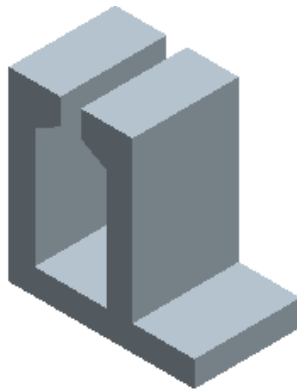
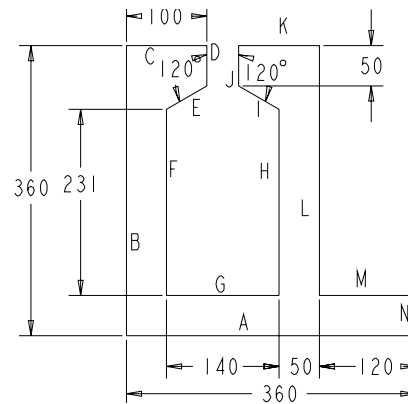

Figure 2-27 Model for Tutorial 2
Figure 2-28 Sketch of the model
In this tutorial, you will draw the sketch for the model shown in Figure 2-27. The sketch is shown in Figure 2-28. For your reference, all entities in the sketch are labeled alphabetically.
The sketch in Figure 2-28 consists of only lines. For ease of understanding, all lines in the sketch are labeled alphabetically.
9. Now, continue drawing the remaining lines that are shown in Figure 2-28. When the sketch is complete, end the line creation by pressing the middle mouse button twice. Notice that the sketched entities are dimensioned automatically as you draw them. These dimensions are weak dimensions and appear in gray color.